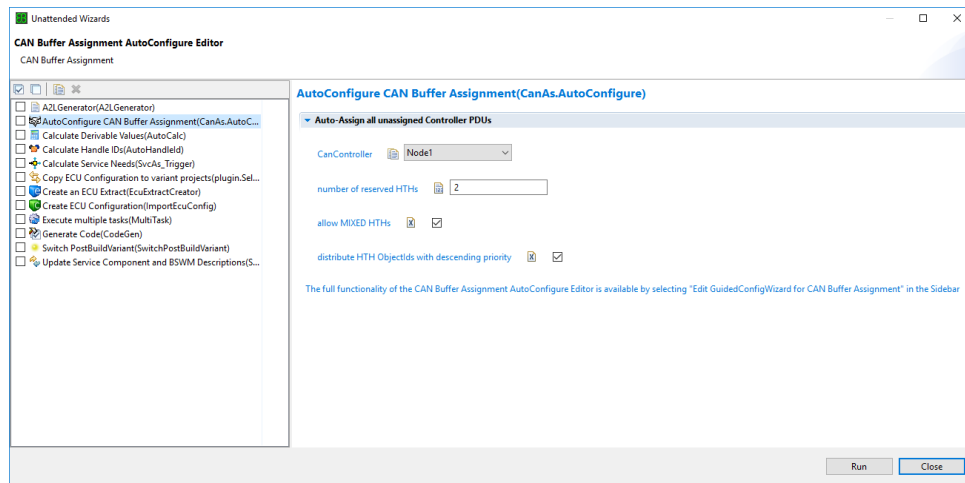

Figure 4.11. Configuring the unattended wizard for the automatic CAN buffer assignment
3. Configure the parameters in the window that appears, see Figure 4.11, “Configuring the unattended wizard for the automatic CAN buffer assignment”. Section 4.3.2.2.4, “The CAN Buffer Assignment Editor GUI” provides a description of the parameters.